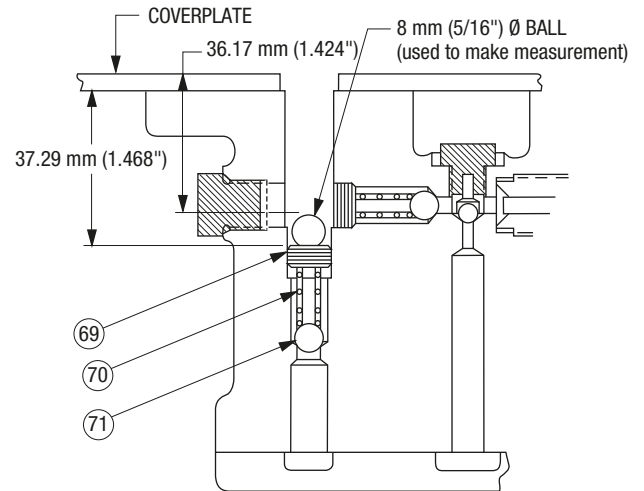

Figure A5 ④
Low-pressure bypass check valve is faulty.	See Hydraulic Schematic (4). If set too low: The pump cannot shift to the high-pressure stage. See Pressure Adjustment for the Low-Pressure Bypass Check, Figure A5 in the Repairs section of this manual. If set too high: The pump cannot restart under pressure. See Pressure Adjustment for the Low-Pressure Bypass Check, Figure A5 in the Repairs section of this manual.
When properly set to the dimension shown in Figure A5, the high pressure stage operation of the pump will be delayed approximately one (1) second after the motor starts. This delay is created by the closing time of the pilot-operated valve.